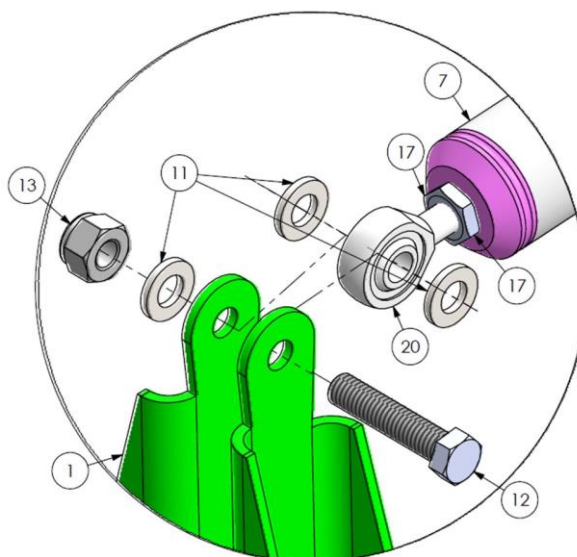

Figure 27: Eyebolt assembly, Detail E
- Step 9. To replace the eyebolt seen in Figure 27, remove the AN4 locknut (13) and bolt (12). Replace the *noncompliant* eyebolt (20) with either a *type 1* or *type 2* eyebolt.
- Step 10. Once the eyebolt has been replaced, reassemble the eyebolt assembly. Refer to Figure 27 for component positions.